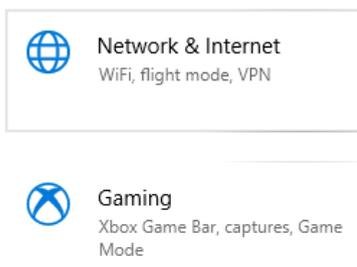

Fig. 2
3. Choose Network and Internet (Fig.2).